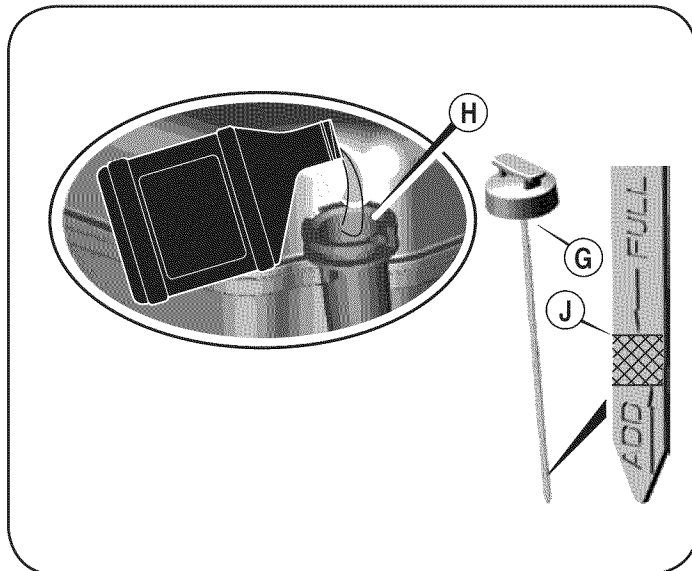

Figure 11
3. Insert and tighten the oil fill dipstick. Remove it to check the oil level. See Figure 11.
4. If the oil level is near or below the lower limit mark on the dipstick, remove the oil fill dipstick, and fill with the recommended oil to the upper limit mark (J). Do not overfill.